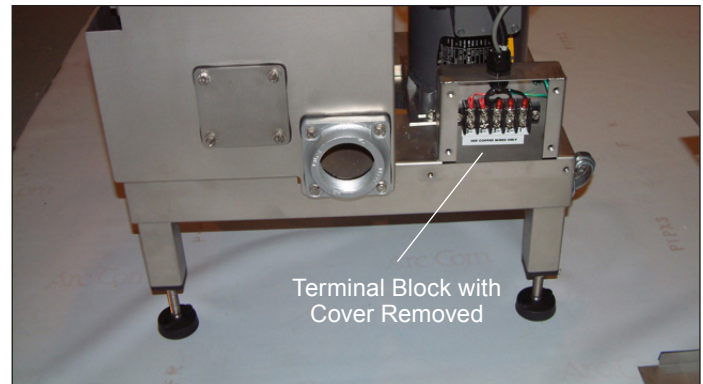

Figure 24. Terminal Block
2. Remove terminal cover from right side of WasteXpress cabinet. (Figure 24).
3. Remove terminal block cover and gasket from side of cabinet (Figure 24).